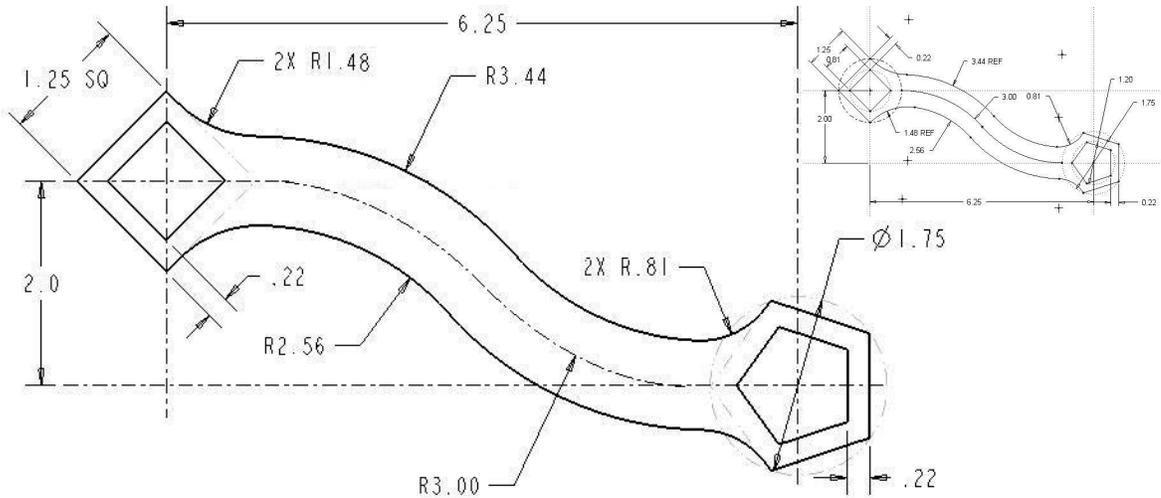

Figure 3-80 Problem 11
- 3.11** Challenge problem - Draw the **Special S-wrench** (Figure 3-80). **Design Intent** — All arcs are tangent to each other and the edges of the two end shapes. The diamond shape is 1.25 inches per side. The outer pentagon fits inside a circle of 1.75 inches in diameter. The inner pentagon uses a 1.20-inch diameter circle. The 3-inch radius centerline is tangent at both ends and at its midpoint.